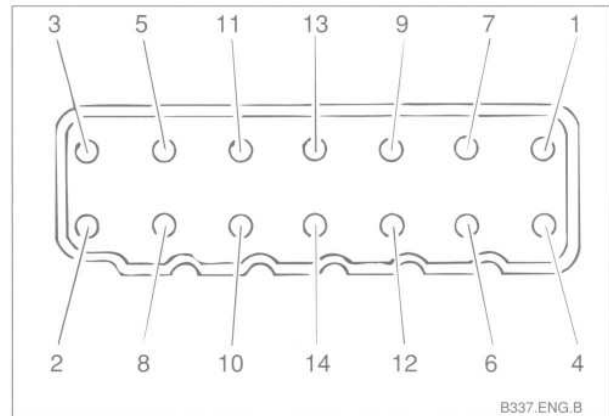

Fig. 41. Cylinder head bolt loosening sequence.
24. Gradually and evenly loosen and remove the cylinder head bolts using the sequence shown in Fig. 41. Remove the cylinder head.